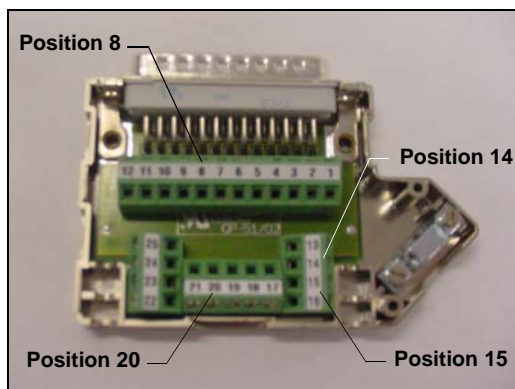

Figure 5. 25-Position Connector Plug (Cover removed)
1. Locate the 25-position connector plug (P/N 923968) in the Dionex ICS-3000 DP/SP Ship Kit. Remove the cover of the plug (see Figure 5).